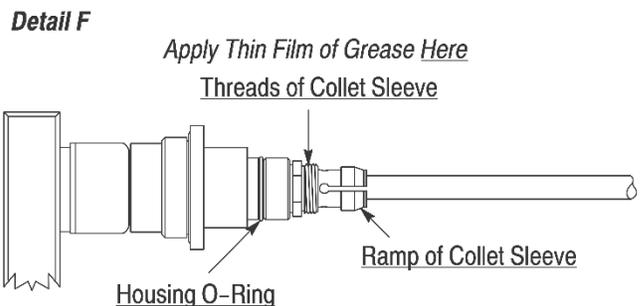

Figure 14
9. Align the internal key (small bar inside) of the housing with the keyway (slot along the outside) of the EB insert, and slide the fixture along with the EB insert assembly into the housing. See Figure 14, Detail A.
12. Slide the wave spring over the crimp sleeve and into the housing. See Figure 14, Detail B.
13. Apply 2 to 3 drops of the threadlocker to the threads at the front of the collet sleeve. See Figure 14, Detail C.
14. Slide the collet sleeve over the crimp sleeve and into the housing. Thread the collet sleeve onto the housing, BEING VERY CAREFUL TO NOT pinch the back end of the collet sleeve, which would cause the cable to twist. See Figure 14, Detail D.
15. Secure the bench-mount assembly fixture to a stable work surface. Fit the end of the housing onto the captive housing of the bench-mount assembly fixture. See Figure 14, Detail E.
17. Using an applicator swab, apply a *thin film* of the grease to the housing O-ring, threads of the collet sleeve, and the ramp of the collet sleeve. Refer to Figure 14, Detail F.